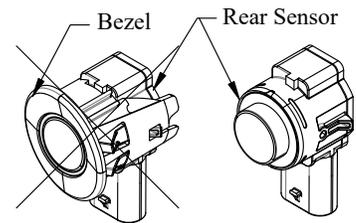

Figure 1: Rear sensor - no bezel.
2. **Remove and Save** the rear sensors and wire harness from the bumper. Do not reuse the factory mounting bezel (Figure 1), doing so may position the rear sensors incorrectly.